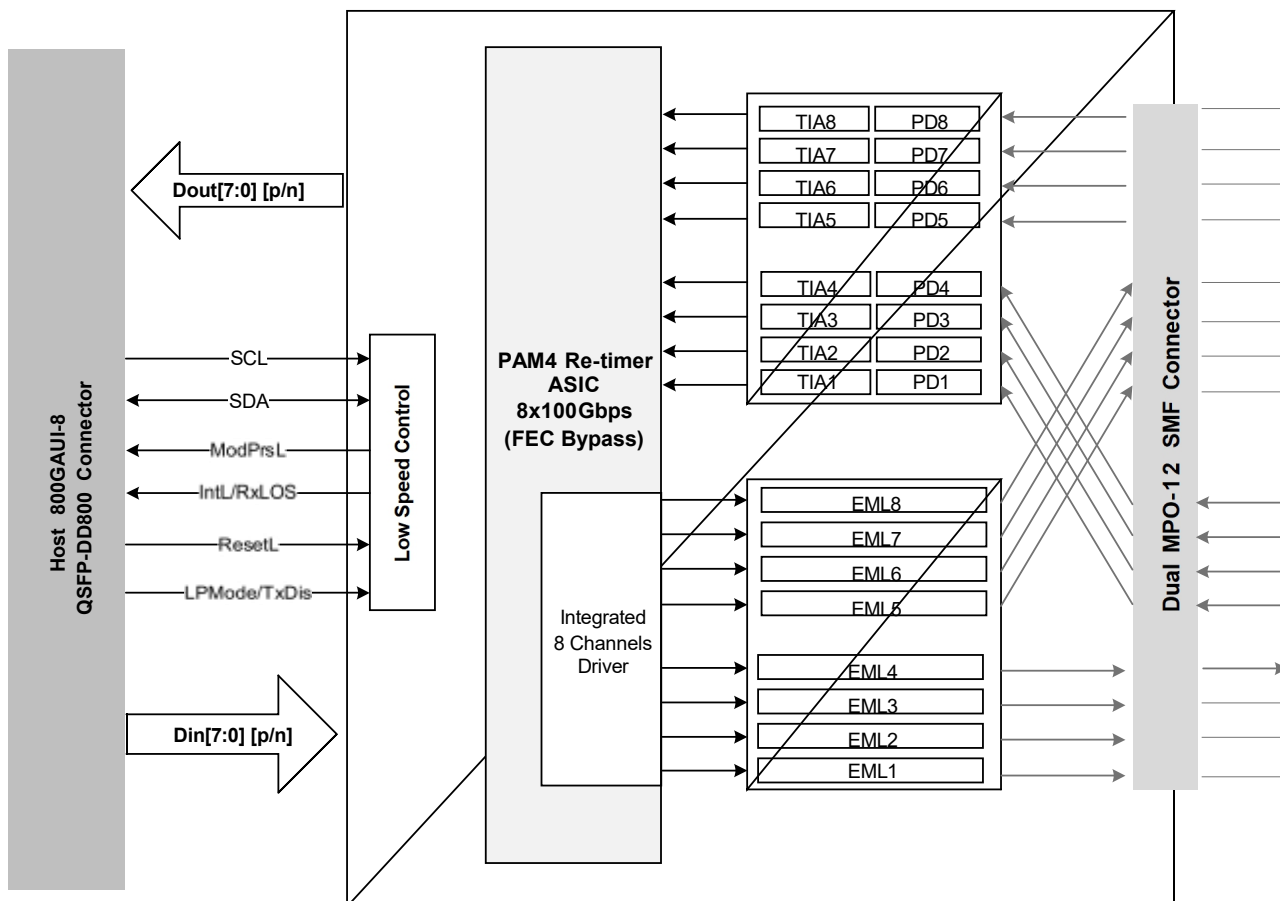

Figure 1: Transceiver Block Diagram
As shown in Figure 1, the transmitter path of the transceiver contains an 8x100Gbps 800GAUI-8 electrical input with Equalization (EQ) block, integrated electrical multiplexer, integrated EML driver, diagnostic monitors and 8 single mode EML lasers. The integrated electrical multiplexer and integrated EML driver converts 8 channels of 100 Gbps (PAM4) electrical input data to 8 channels of 100Gbps (PAM4) parallel optical signals. The transmitter complies with EN 60825 and CDRH Class 1 human eye safety compliance.
As shown in Figure 1, the receiver path of the transceiver contains eight PIN photodiodes, trans-impedance amplifiers (TIA), integrated de-multiplexer and 8x100G 800GAUI-8 compliant electrical output blocks. The PIN-TIA and integrated de-multiplexer converts 8 channels of 100Gbps (PAM4) parallel optical signals to 8 channels of 100Gbps (PAM4) electrical output data.